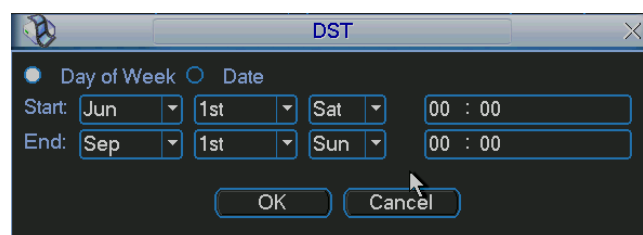
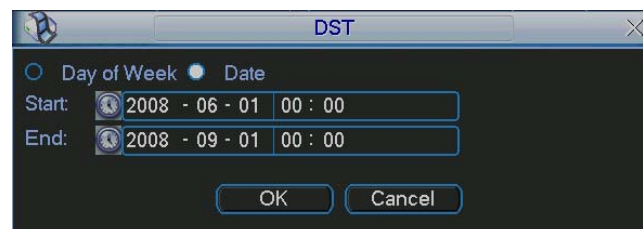

Figure 5-4
Figure 5-5
- z DST: Here you can set DST time and date. Please enable DST function and then click set button. You can see an interface is shown as in Figure 5-4. Here you can set start time and end time by setting corresponding week setup. In Figure 5-4, enable date button, you can see an interface is shown as in Figure 5-5. Here you can set start time and end time by setting corresponding date setup.